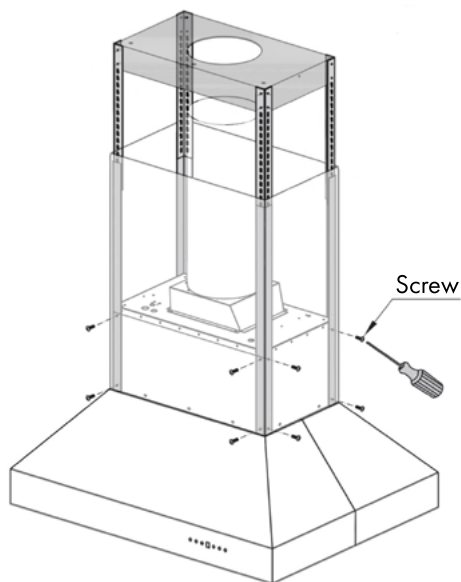

Figure 4
7. Use 16 screws (H) to attach the angle brackets to the four corners at the bottom of the range hood. Use a level to ensure the brackets are vertically level. *Figure 4.* **NOTE:** Do not secure the angle brackets to the chimney bracket on the ceiling at this time.